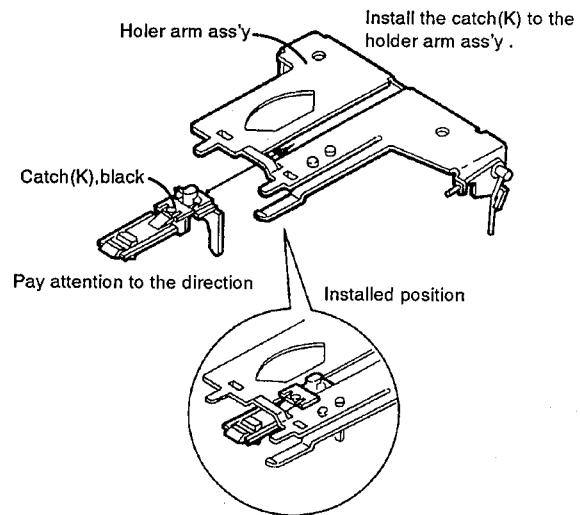

Fig. 4-15
■ How to assemble the cassette holder and sub chassis (See Figs. 4-15 through 4-18)